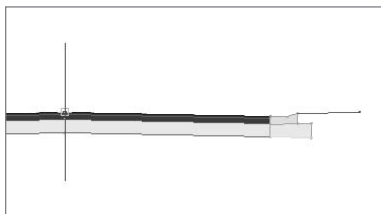

Figure A.70
14. Note that the command line states `Select marker point within assembly or [RETURN for Detached]`. Click the circular point marker on the right UrbanCurbGutterValley1 subassembly that represents the top rear of the curb to attach the LinkWidthAndSlope subassembly (see Figure A.70). If you misplace the subassembly, use the AutoCAD Erase command to erase the misplaced subassembly and return to step 13.